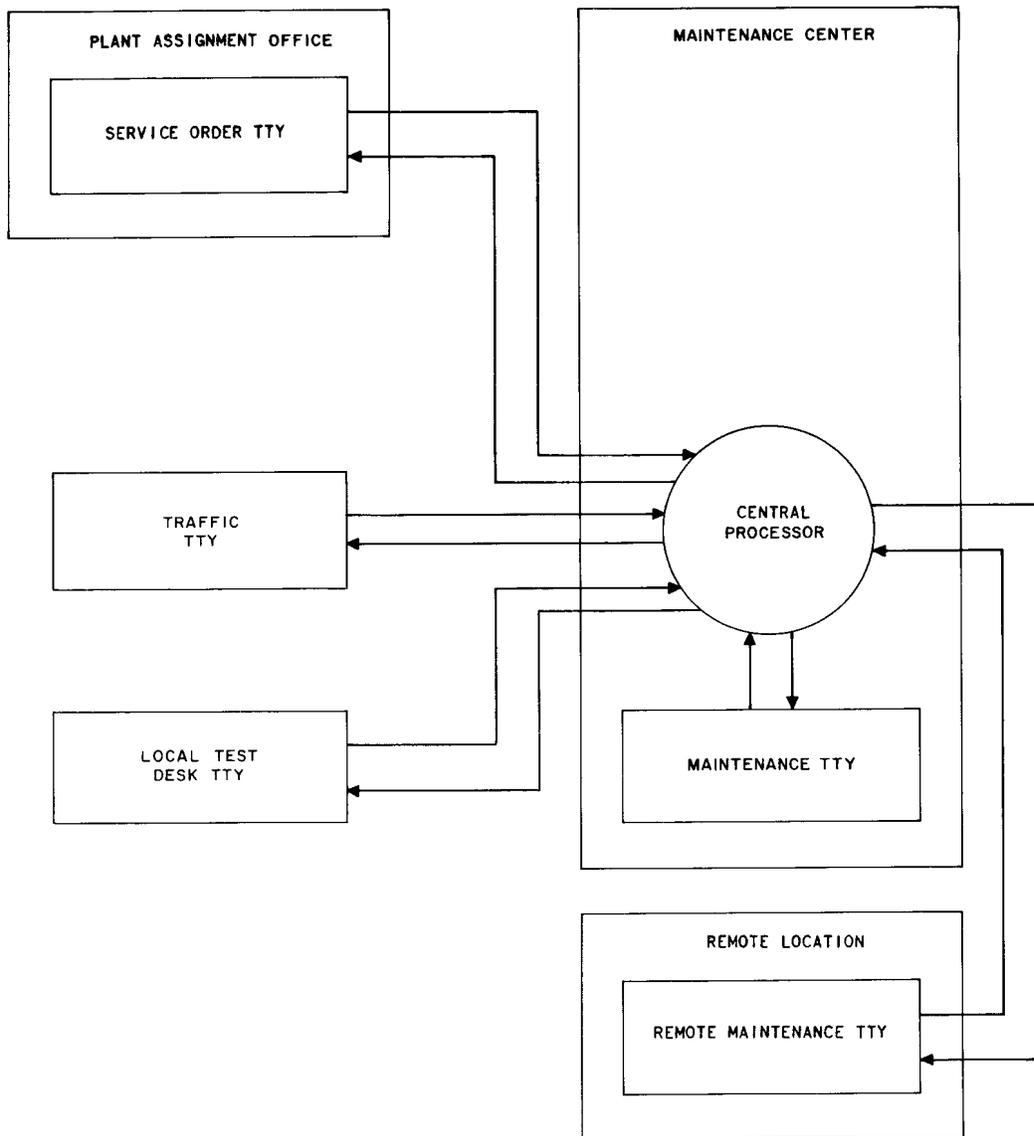

Fig. 7—Teletypewriter Arrangements
3.10 Recent change information may be sent to the ESS by more than one TTY (Fig. 7). One is a service order TTY located in the assignment office. The others are maintenance TTYs located at the maintenance center or at a remote location, (traffic TTYs, and local test desk TTYs). The maintenance TTYs are primarily used for the maintenance of the ESS office and are not generally used for transmitting ESS service order information to the ESS.